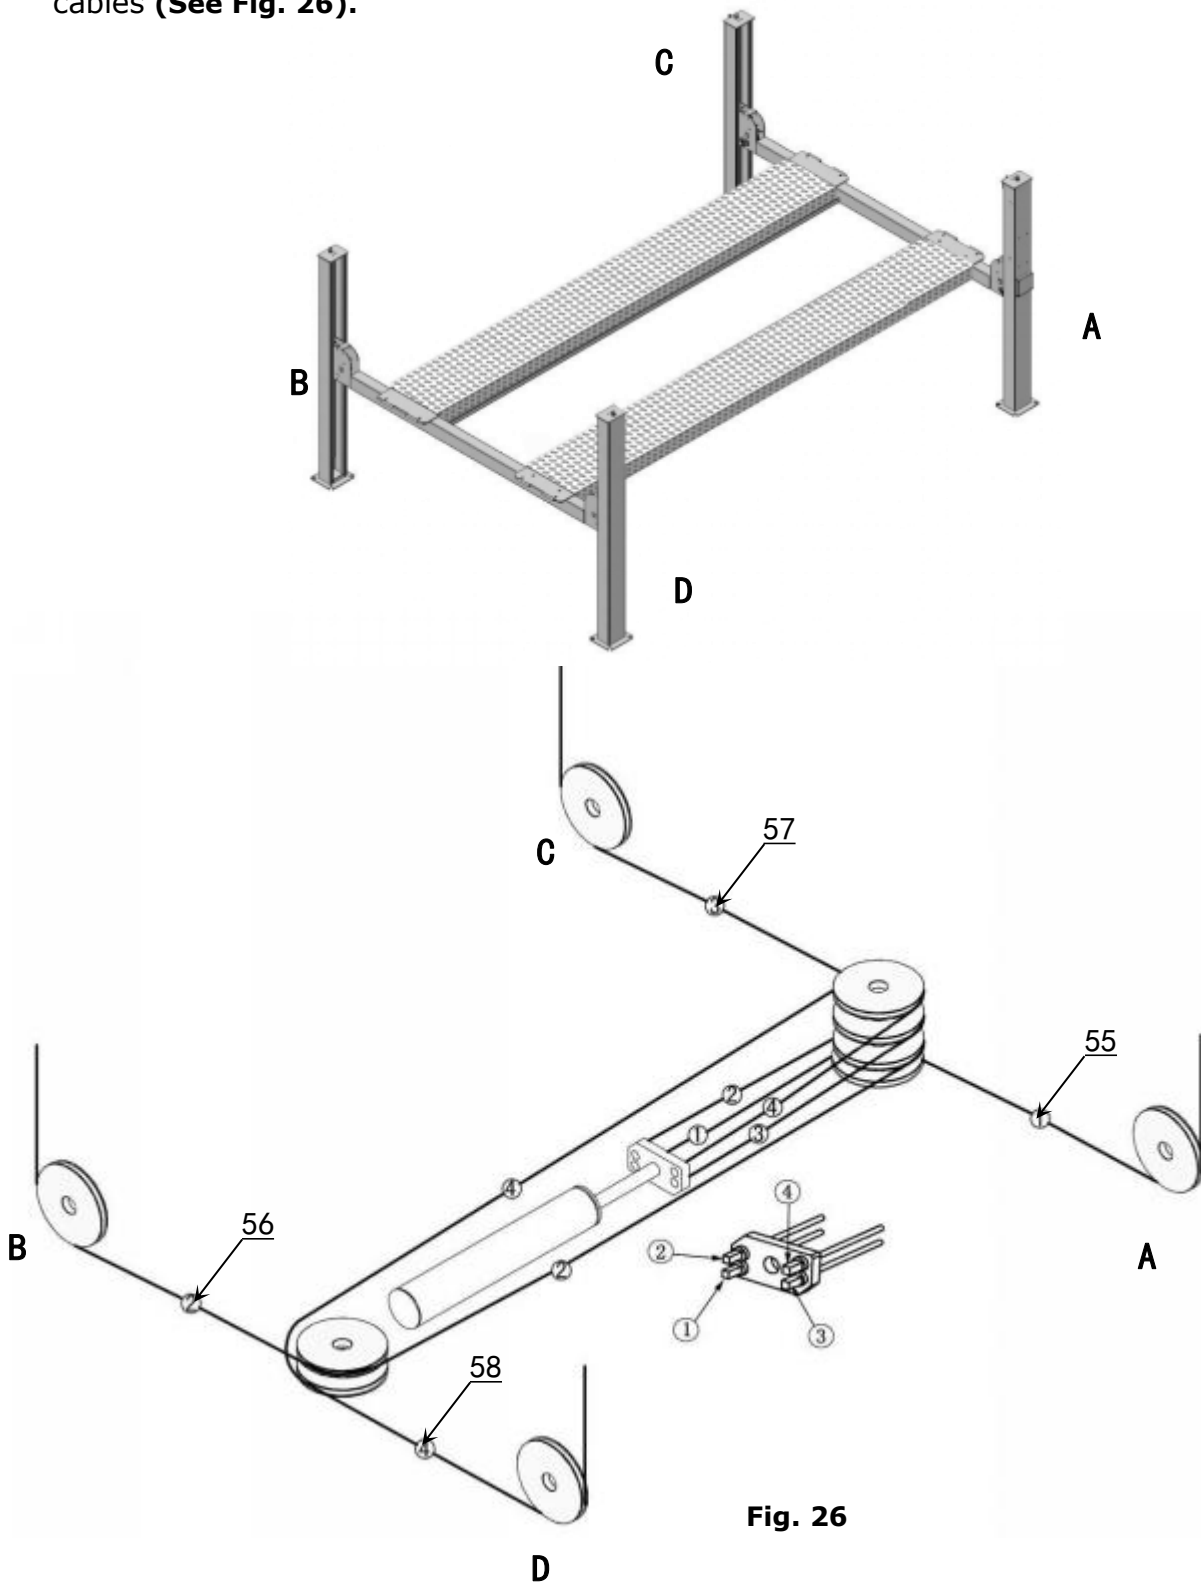

Fig. 26
1. Pass through the cables from the platform to the columns according to the number of the cables (**See Fig. 26**).